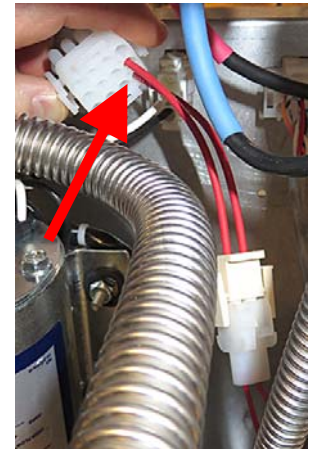

Figure 33
37. Unplug the 12-pin connector from the rear of the FIB (ATO) box (see Figure 33).